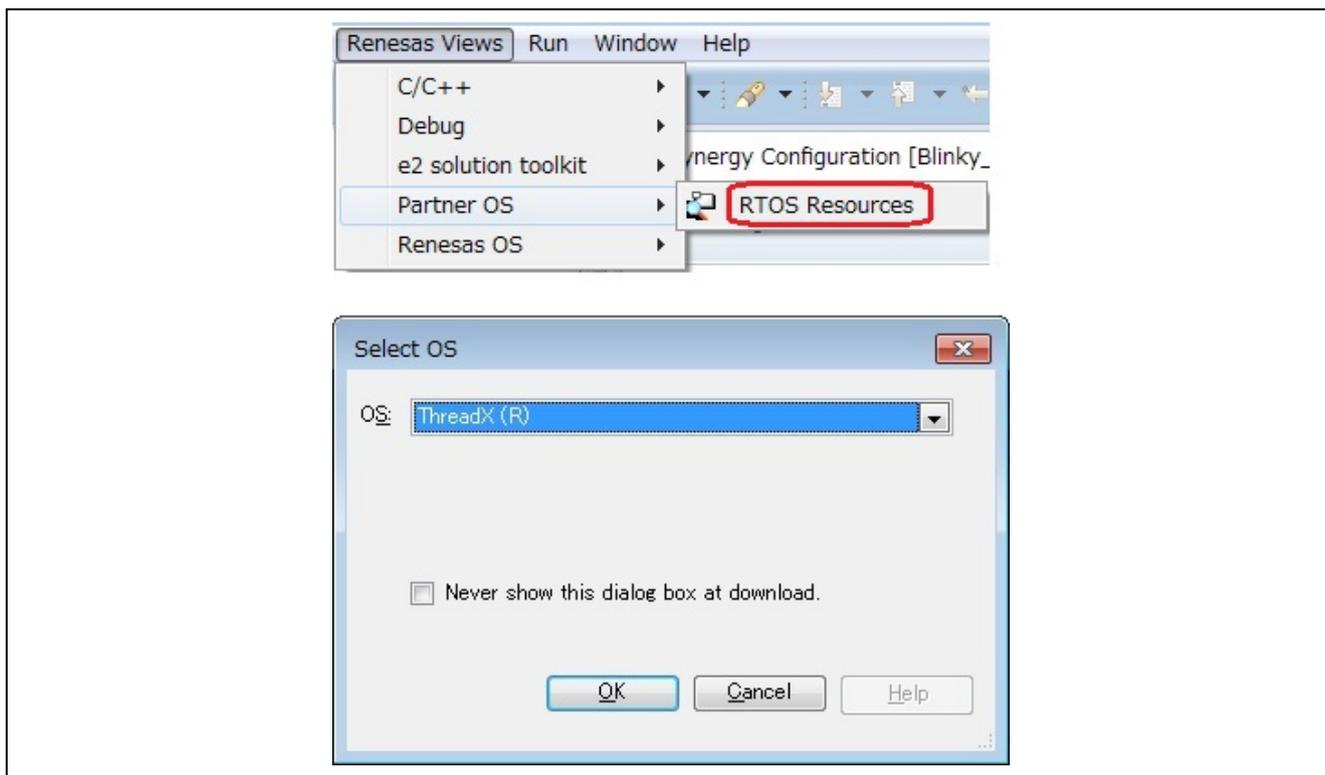

Figure 18 Specifying the RTOS resources and the OS
Because the RTOS Resources view functions only with the debugger running, first you need to build a project, such as **Blinky with ThreadX** (see section 2.2), then start the debugger and select **Renesas Views > Partner OS > RTOS Resources**. When the **Select OS** dialog box displays, select **ThreadX (R)** as shown in Figure 18. The **RTOS Resources** view appears.